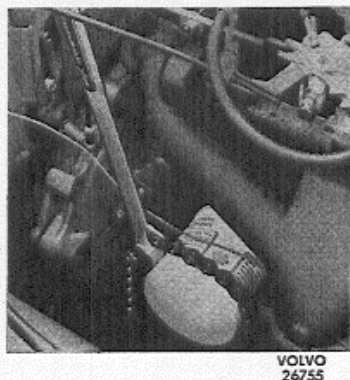

Fig. 10. Removing the oil filter (B 18).
2. Remove the old filter with the help of the tool as shown in Fig. 10. Scrap the filter.